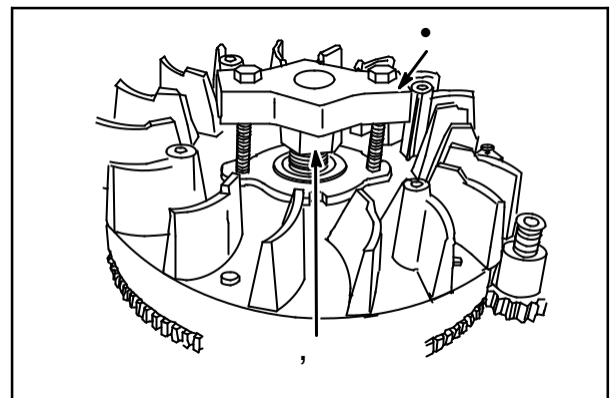

Fig. 16
Reinstall flywheel nut (2). Turn nut down flush with top of threads, Fig. 16.